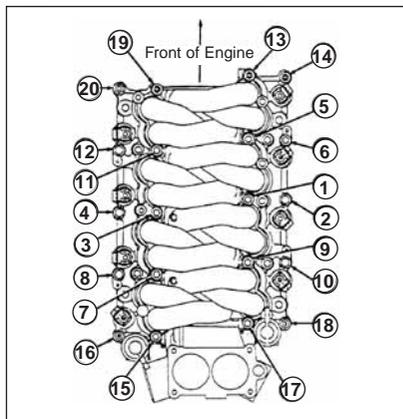

Figure 7 Lower intake manifold torque sequence for '93-'96 4.6L engines.
- 3) Following the sequence shown in **Figure 7** (above), tighten fasteners numbered 5, 7, 9, and 11 to 9-11 ft.lbs.